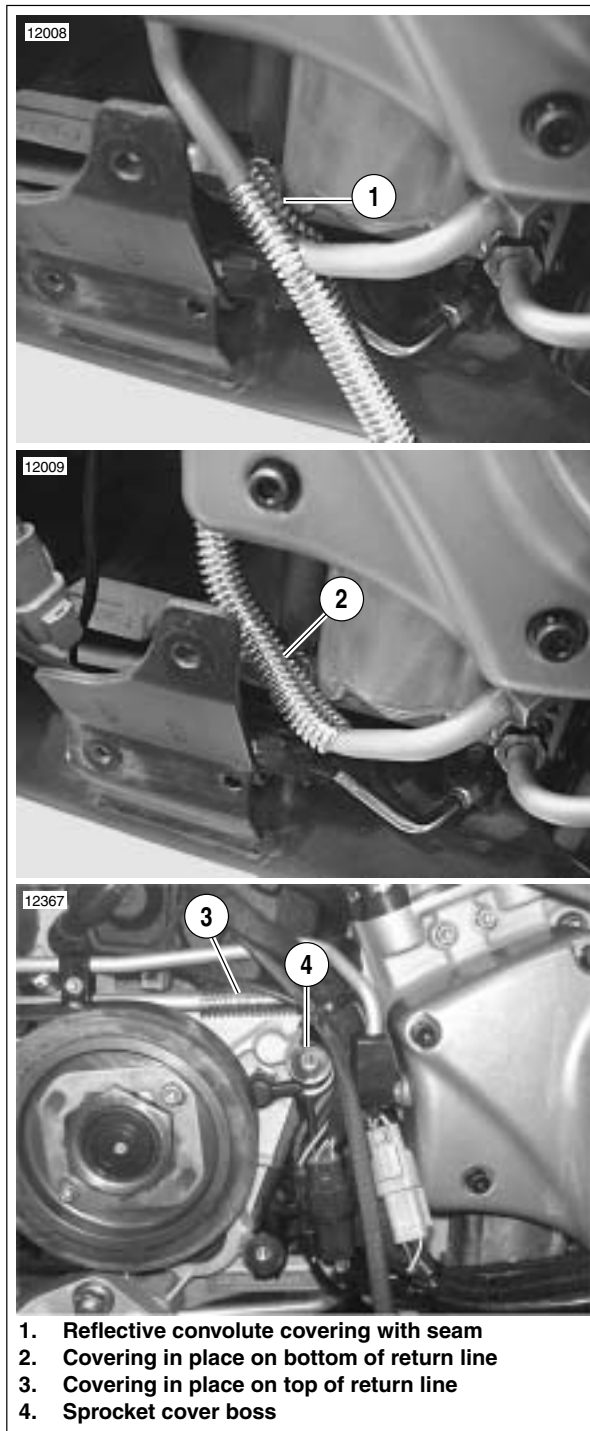

Figure 7-88. Convoluted Covering for Oil Return Line
- See Figure 7-88. Convolute covering the return oil line should have the seam rotated to the back side of the oil line away from wiring.